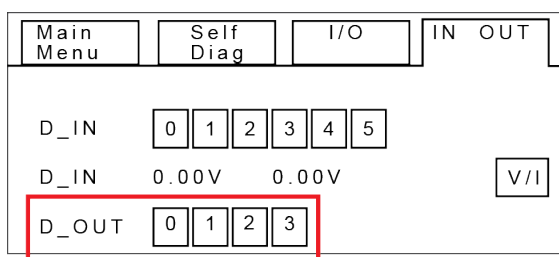

Figure 42. IN OUT Screen
- g. On the IN OUT screen (see Figure 42) in the D_OUT number buttons, touch:
2. At the D_OUT buttons on the IN OUT screen (see Figure 42), touch 0 and 2. If the pressure is still below 15 psi, de-energize the devices and verify general troubleshooting steps have been followed before continuing.